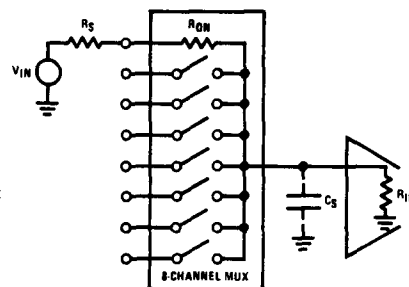

FIGURE 6. 8-Channel MUX
1. Multiplexer's Influence on System Accuracy (Figure 6).
a. The error, (E), caused by the finite "ON" resistance,  $R_{ON}$ , of the multiplexing switches is given by:
$C_S$  (Figure 6): MUX output capacitance + following stage input capacitance + any stray capacitance at this node.